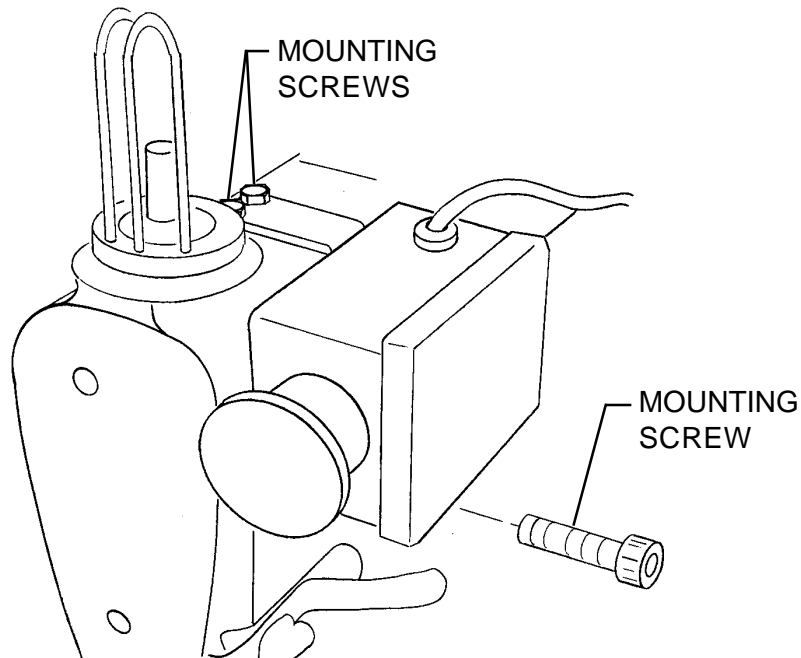

FIG. 2-15
G. To install the Emergency Stop Switch. Use the screws provided and install as shown (See Fig. 2-15).